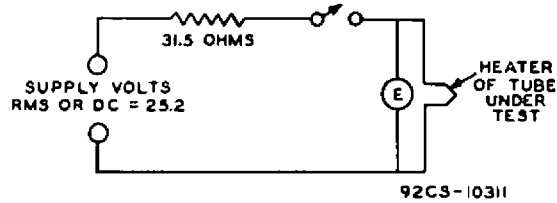

Fig.1 - Test Circuit for Determining Heater Warm-Up Time.
Heater warm-up time is defined as the time required in the test circuit shown in Fig.1 for the voltage (E) across the heater terminals to increase from zero to 5 volts.